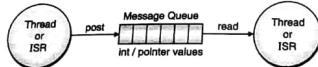

Fig. 13.7.2 : Message queue implementation
- Fig. 13.7.2 shows the implementation of a message queue.